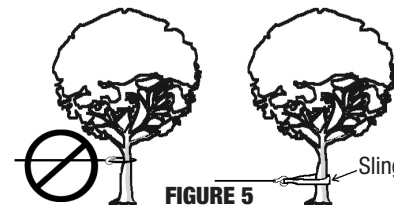

FIGURE 5
- 11. NEVER HOOK THE WIRE ROPE BACK ONTO ITSELF.** This will damage the wire rope. Use a **KEEPER 02953 3" X 6' WINCH STRAP**, sling, tree saver or other recommended accessory for this type connection (Figure 5).